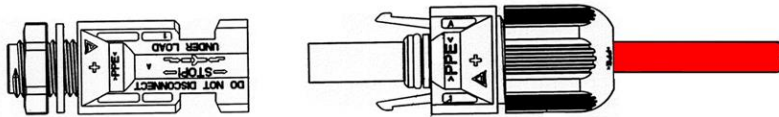
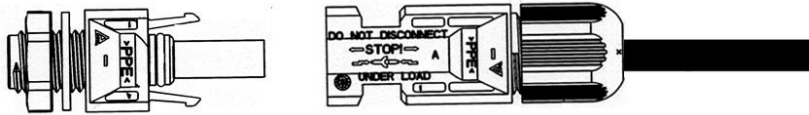

Figure3-18 Connect with the positive pole of DC input
Figure3-19 Connect with the negative pole of DC input.
- Step 7 Insert the positive connector and negative connector into the ports marked with "+" and "-" in the inverter respectively. If there has a click sound, it means it have been inserted properly, as shown in Figure3-18 and Figure3-19.